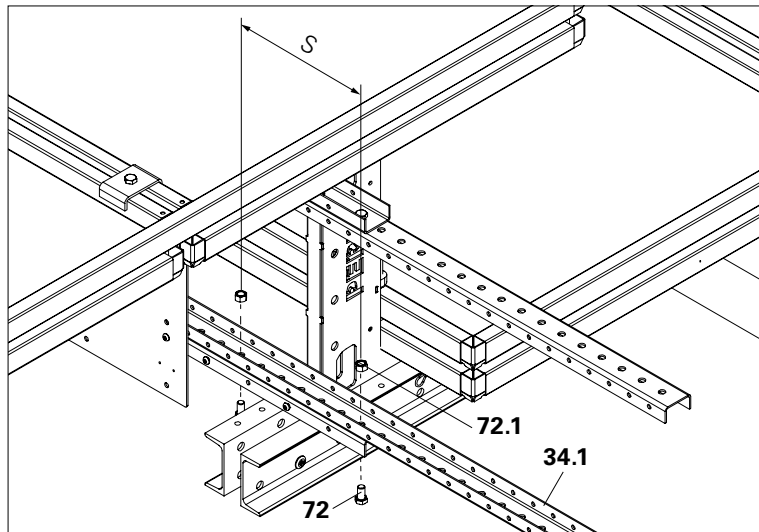

Fig. C2.01
1. Attach Platform Beam LPS 173 (34.1) laterally to the available platform beam using Bolts 4017 M16x40-8.8 (72) and Nuts ISO 7040 M16-8 (72.1). Distance $S \geq 250$ mm (Fig. C2.01)